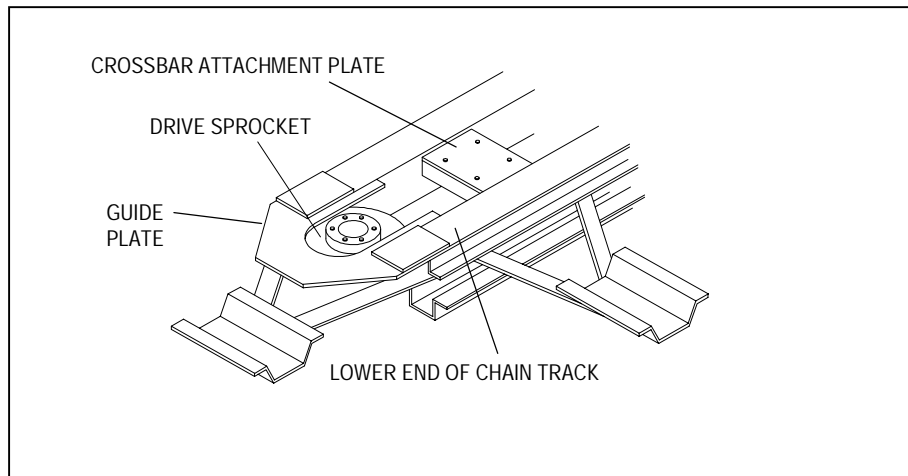

Figure 14. LOWER END OF CHAIN TRACK
1. Remove six 1/2-13 x 1-1/2 inch Grade 8 bolts from each drive sprocket. Set the hardware aside for later use (see Figure 14).